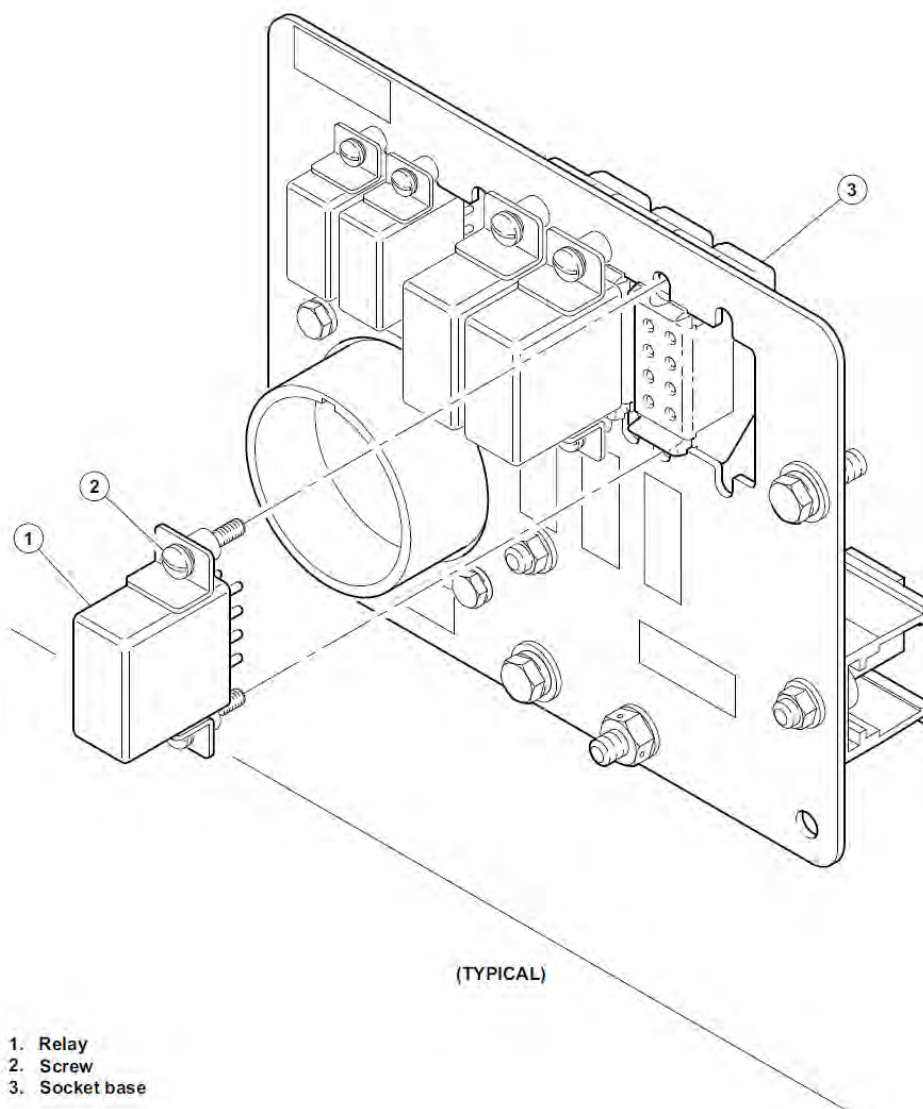

Figure 96-1. Track Mounted Relay - Removal/Installation (Typical)
96.2.10.2 Loosen the screws (2, Figure 96-1).
96.2.13.1 Correctly position the relay (1, Figure 96-1) on the socket base (3) and apply finger pressure until it latches into place.